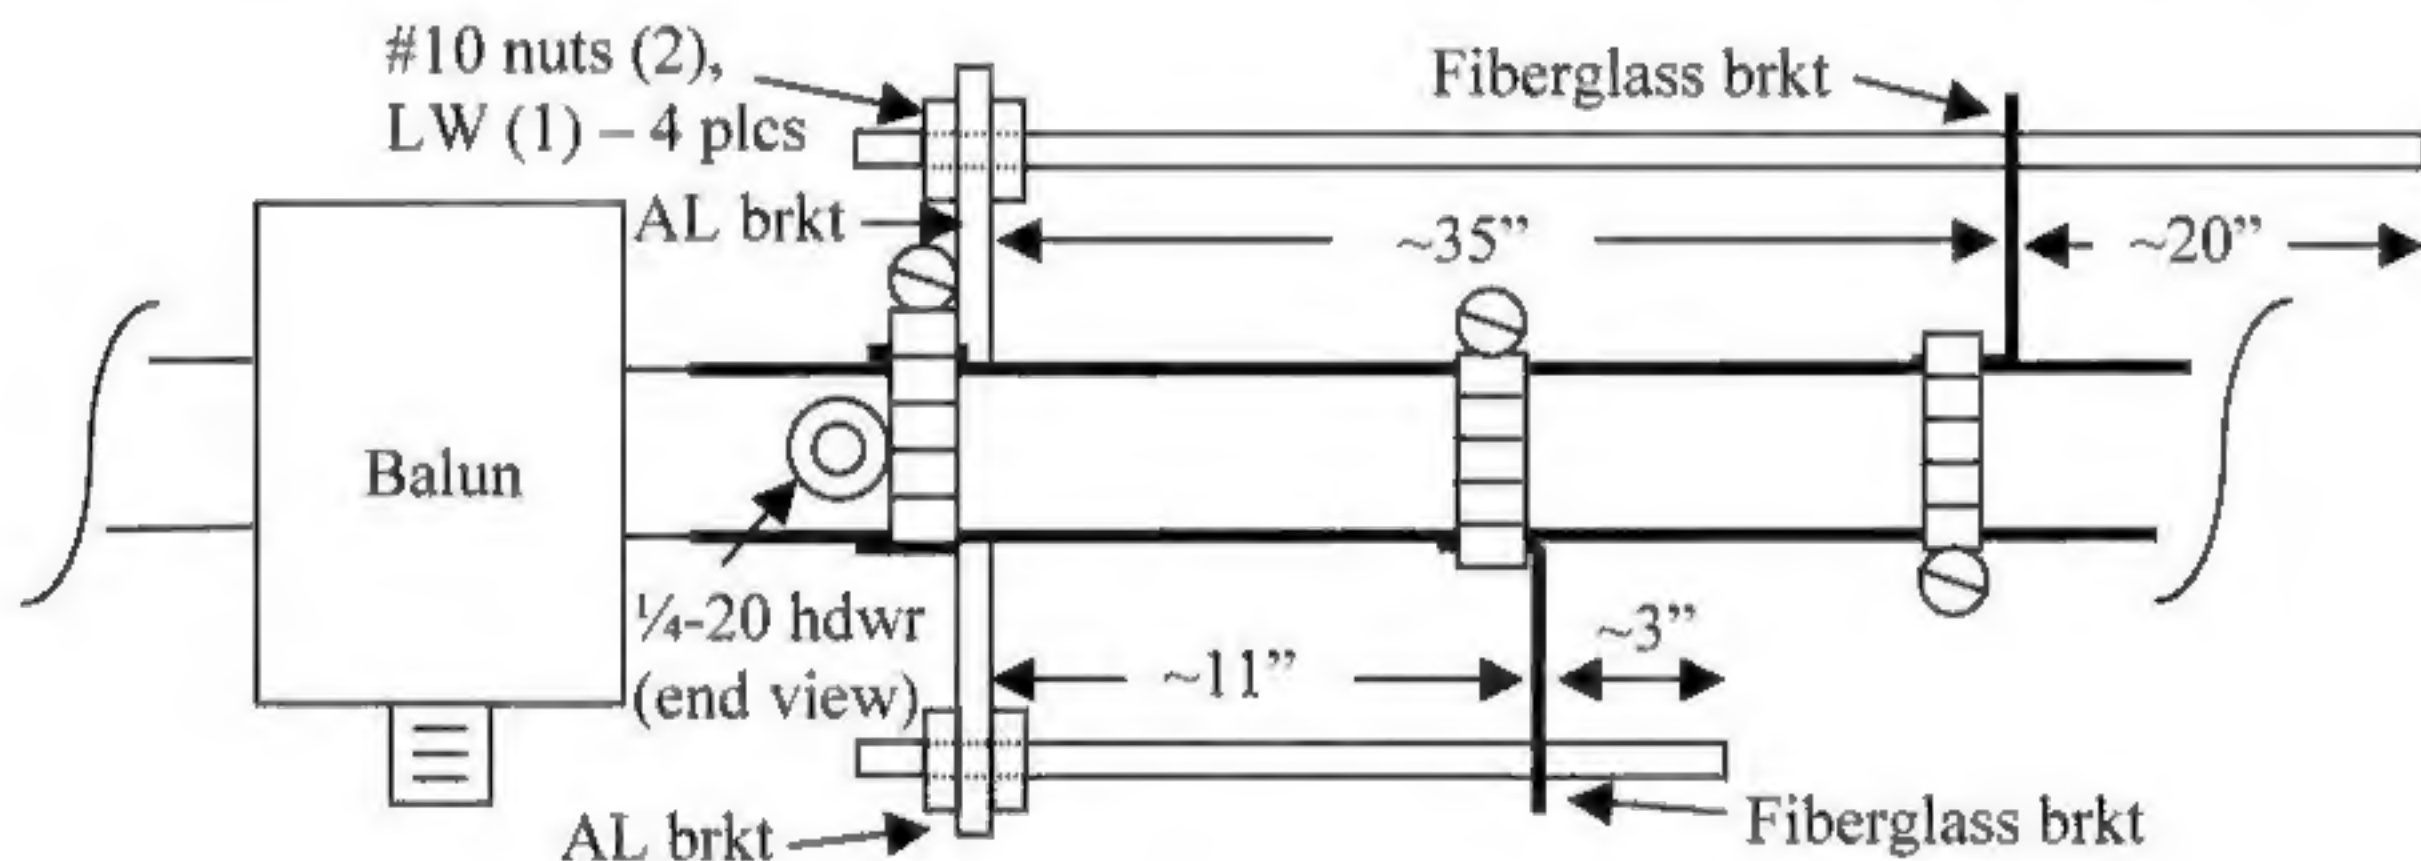

Figure 4: 6 and 2-meter stub assembly and mounting
- 8) Slide four hose clamps over each aluminum tube. Slide two hose clamps (one on each aluminum radiator tube) up against the 1/4-20 hardware and clamp the four aluminum stub channel brackets (two on each radiator) on opposite sides of the aluminum radiator tubes as shown in Figure 4.
- 9) Using eight hose clamps (four on each radiator), clamp the fiberglass insulators so as to support the 16" and 55" threaded rods. Position the insulators as shown in Figure 4.
- 10) Mount the four stubs by threading a 10-32 x 3/8" nut 1/2" near the end of the threads. Add a second nut and lock-washer to sandwich the bracket between the two nuts, leaving no more than 1/4" of threaded rod exposed beyond the aluminum bracket. See Figure 4.